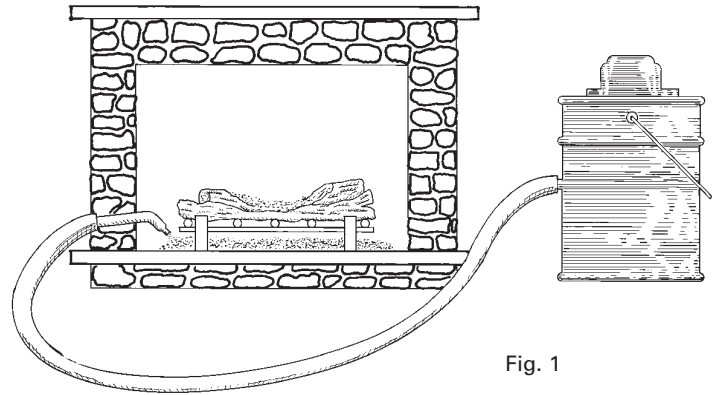

Fig. 1
- **A patented double filter system** allows ash to be removed from wood stoves, pellet stoves or fireplaces without emitting dust. (Fig. 1)